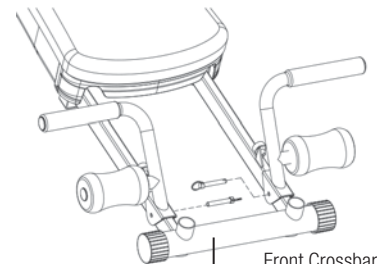

Fig. 5
3. Insert the 2 Short Hitch Pins through the holes on the Wing Attachment brackets and the holes on the rails, as shown in Fig. 5.